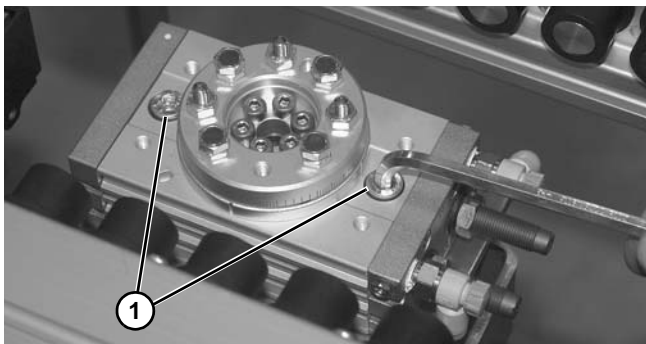

Figure 123
6. Remove two socket head screws (**Figure 123, item 1**) from the top of rotate cylinder.